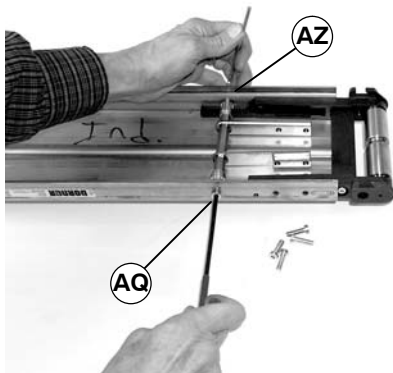

Figure 34
2. Loosen two screws (AQ and AZ of Figure 34).